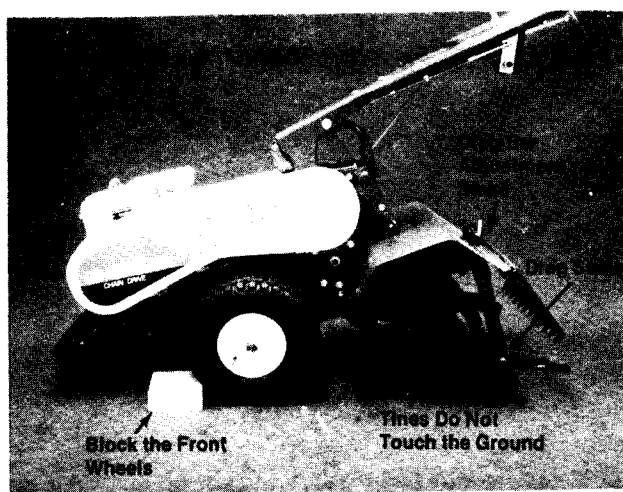

FIGURE 18.
2. Pull the drag bar adjustment pin and move the drag stake all the way down, so the tines DO NOT touch the ground. See figure 18.
3. Block the front wheels as shown in figure 18.